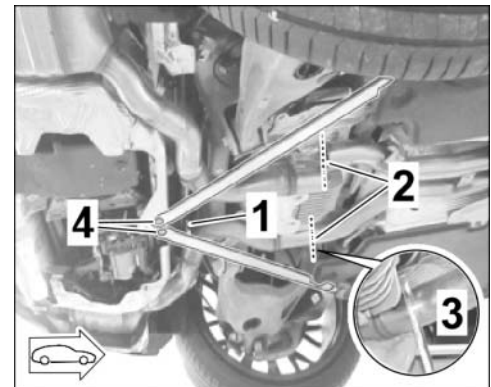

Figure 25
3.3.2 Remove hexagon-head bolt (M8 x 16, 2 x) on strut between the rear silencers (⇒ *Figure 25 -1-*) and remove strut.
3.3.4 Remove hexagon-head bolts (M8 x 20, 2 x) on rear-end cross strut (⇒ *Figure 25 -4-*). ⇒ *Workshop Manual '421319 Removing and installing rear-axle chassis subframe struts'*